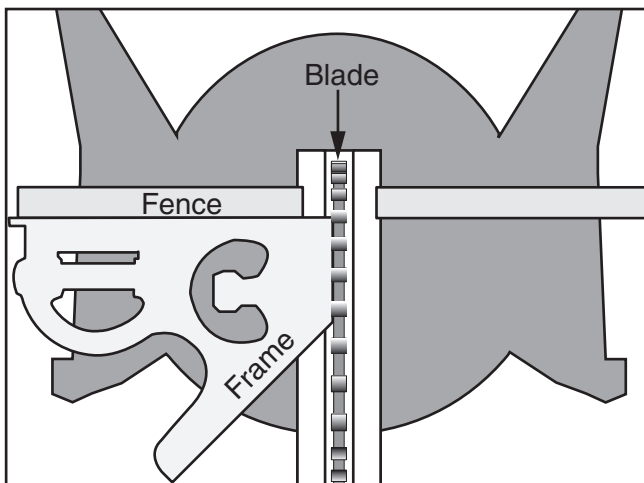

Figure 80. Framing square positioning for miter.
4. Lay a framing square flat on miter table pressed against fence and flat part of blade (not teeth) (see **Figure 80**).